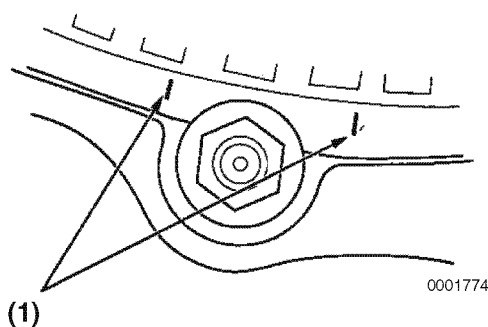

Figure 11-8
9. If replacing the front frame housing, scratch two positioning lines (**Figure 11-8, (1)**) on the stator before disassembly. Make sure that the positioning lines do not deviate more than ± 0.04 in (± 1 mm). If positioning deviates, the stator lead wire cannot be connected to the rectifier.